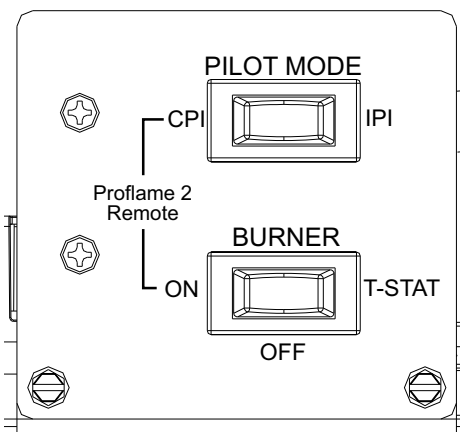

Figure 32. Rocker Switch
4. Once the pilot is lit, burner operation is controlled by the rocker switch located on the front panel. See fig. 32.